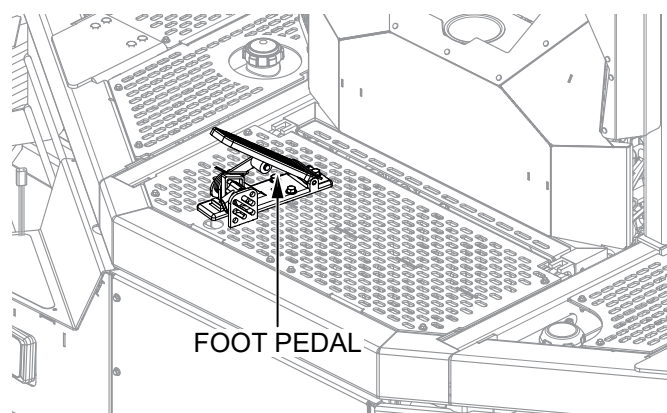

Figure 46. Foot Pedal
1. The **foot pedal** (Figure 46) controls rotor speed when cruise control is disengaged. The position of the foot pedal determines the rotational speed of the blades. Slow blade speed is obtained by slightly depressing the foot pedal. Maximum blade speed is obtained by fully depressing the foot pedal.